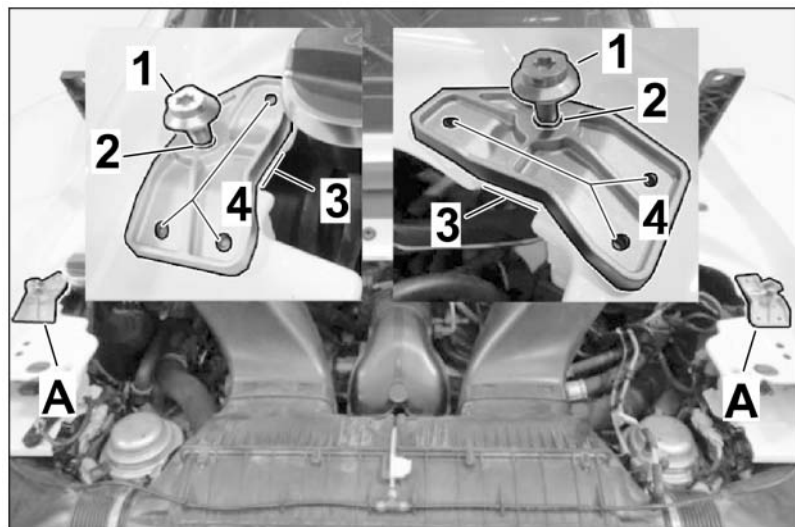

Figure 47
5. – Place the two stiffeners (991.044.806.23) and (991.044.806.24) in the positions shown on the left and right of the rear frame ⇒ *Figure 47 -A-*.